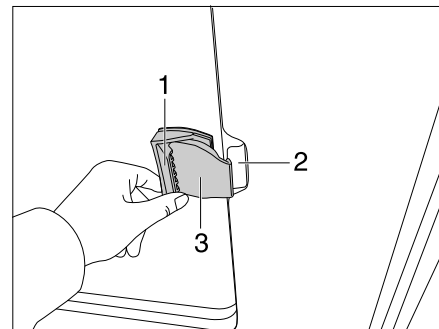

Fig. 69 Sliding window without lock
- Pull the handle flap (Fig. 69,1) and push or pull the handle forwards at the same time.